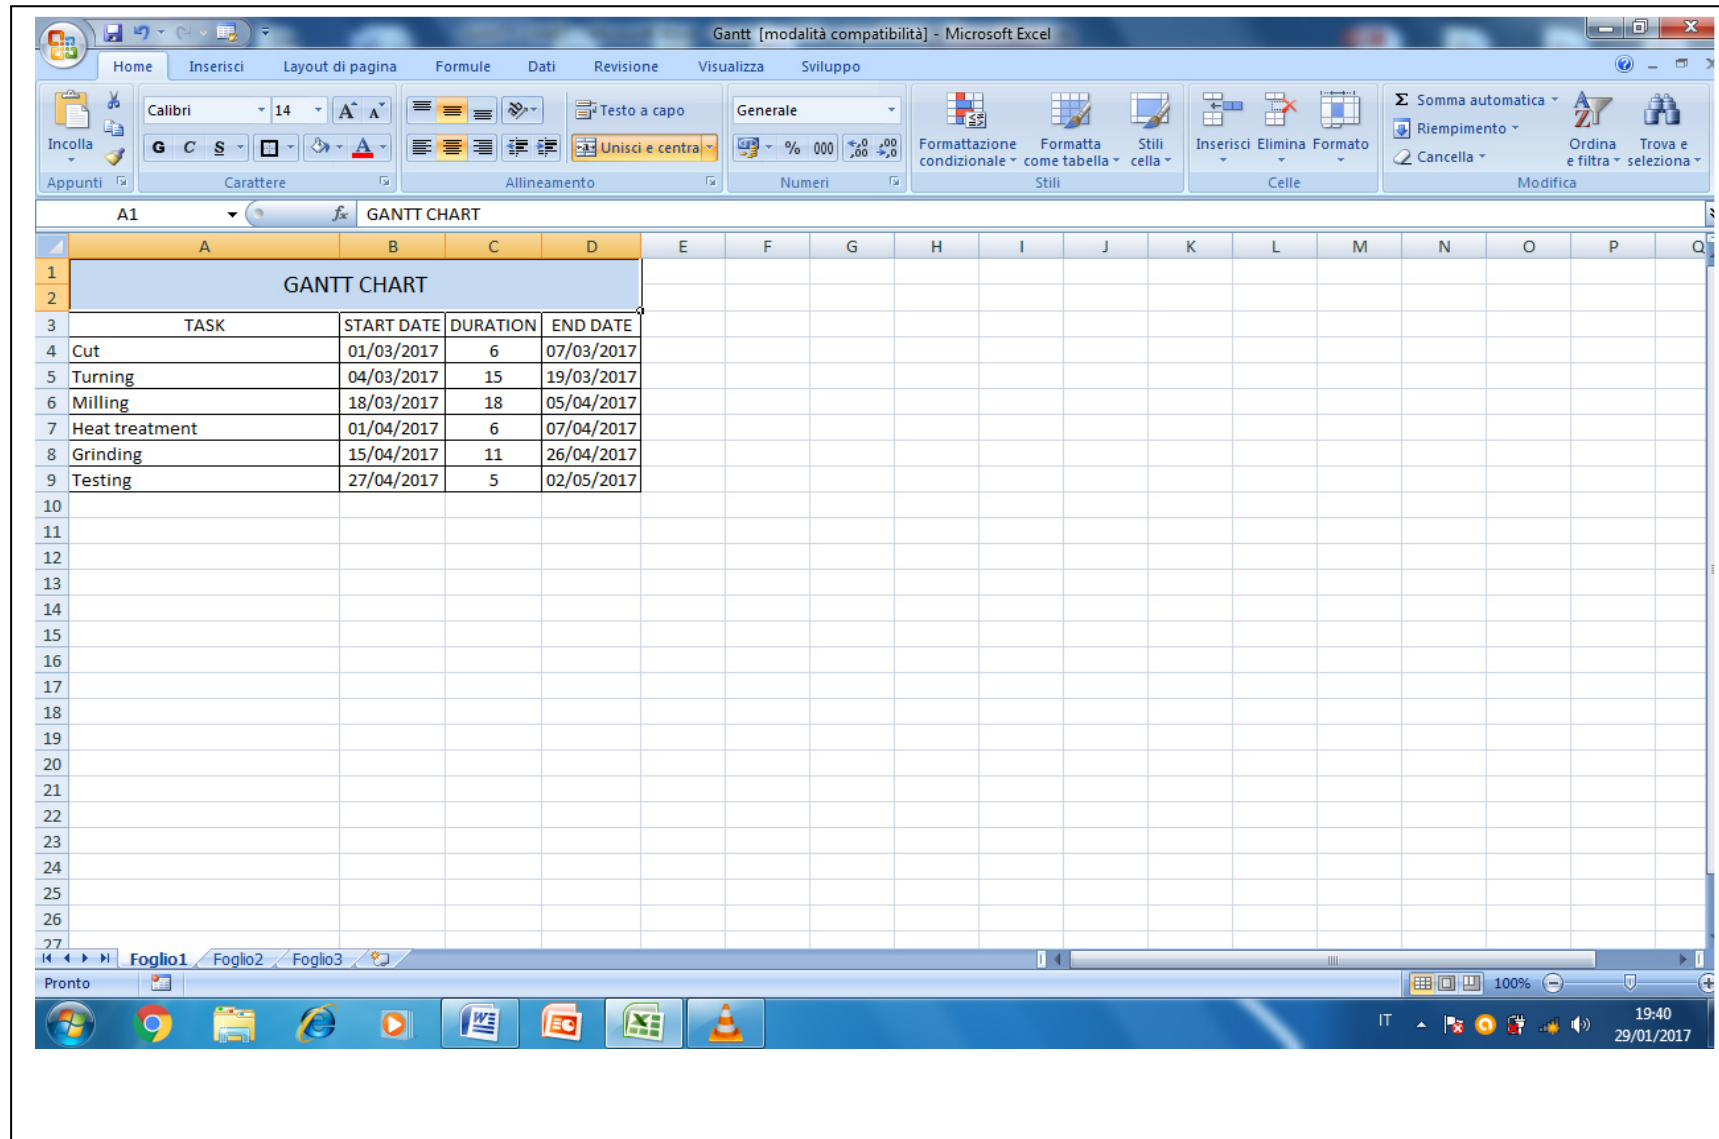

Fig 2- Data table
1) Create a data table as shown in figure 2